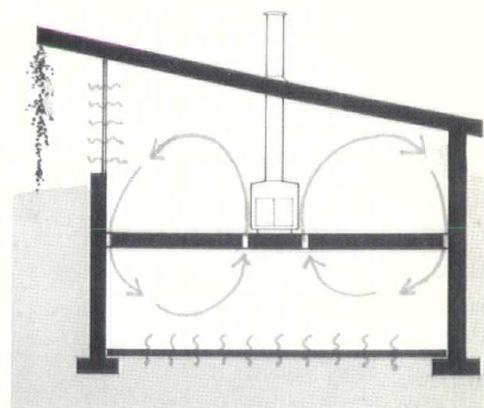

Figure 12
Sunnycave. Built in North Carolina by Wendell Thomas in 1958, this house reportedly maintains temperatures that do not exceed 75 degrees in summer or fall below 60 degrees in winter, with only a small stove as the heating element (11). The sides of the house are insulated by earth berms, with a large window area facing south that is shaded in summer by vines. In winter, the cold air from the outside walls drops down to the basement through "cold air drainage slots", Figure 12, where it is moderated by warmer ground temperatures and then drawn up through registers near the space heater. In summer, the hot air rises up the sloping ceiling and is evacuated by high ventilating windows.